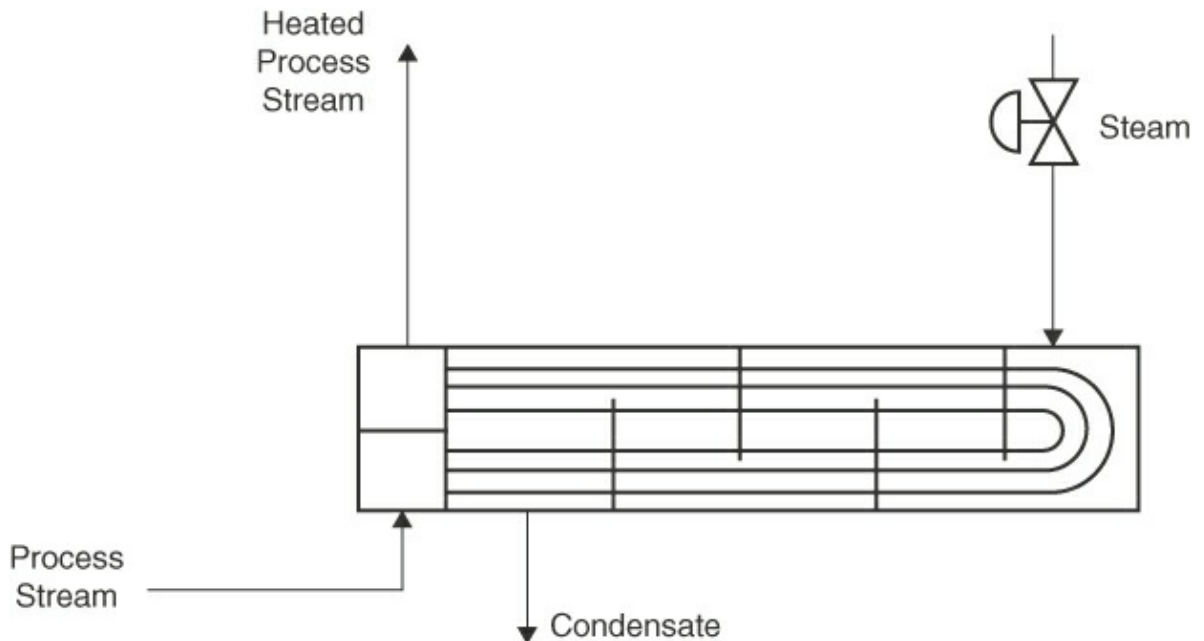

Figure P3.2.14
****3.2.14** Heat exchangers are used to transfer heat from one fluid to another fluid, such as from a hotter fluid to a cooler fluid. Figure P3.2.14 shows a heat exchanger that transfers heat from condensing steam to a process stream. The steam condenses on the outside of the heat exchanger tubes while the process fluid absorbs heat as it passes through the inside of the heat exchanger tubes. The feed rate of the process stream is measured as 45,000 lb/h. The flow rate of steam is measured as 30,800 lb/h, and the exit flow rate of the process stream is measured as 50,000 lb/h. Perform a mass balance for the process stream. If the balance does not close adequately, what might be a reason for this discrepancy?